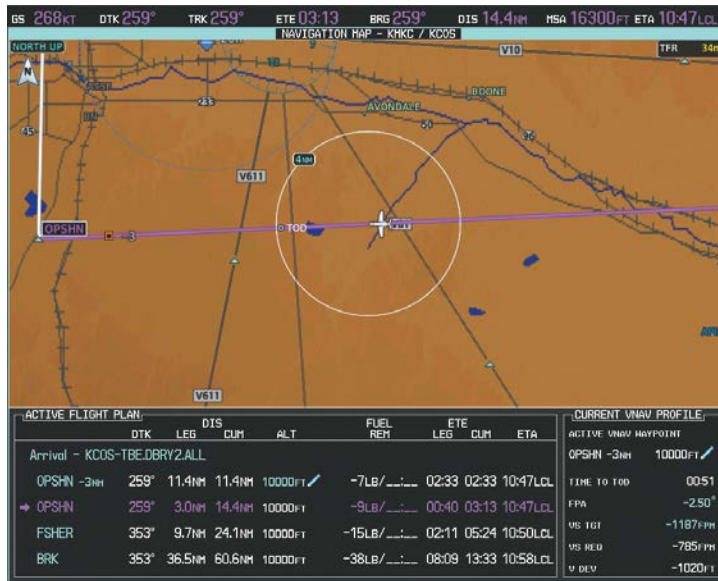
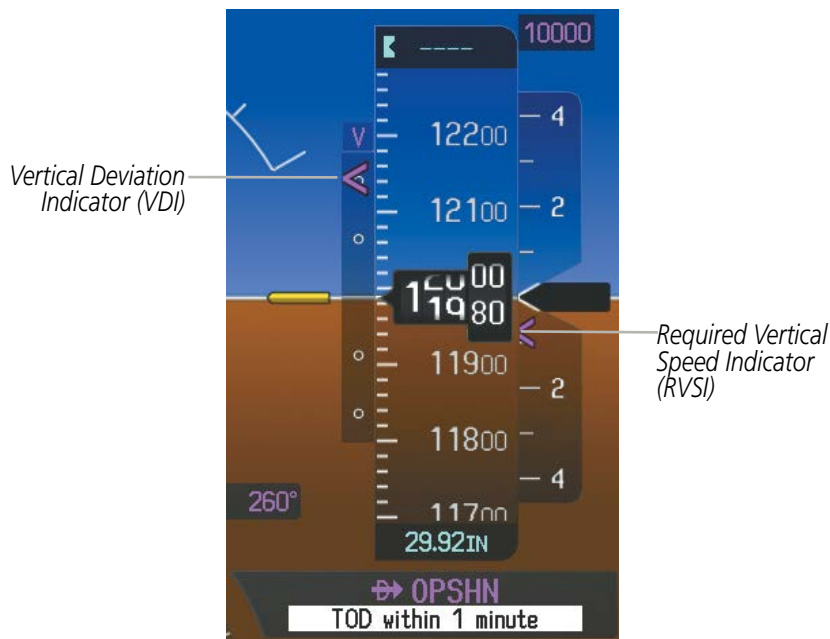

Figure 5-183 Approaching Top of Descent (TOD)
Figure 5-184 VDI & RVS Upon Reaching Top of Descent (TOD)
- 15) As seen in Figure 5-183, the aircraft is approaching TOD. Note the target vertical speed required to reach the selected altitude. The Vertical Deviation Indicator (VDI) and the Required Vertical Speed Indicator (RVS) are now displayed on the PFD as shown in Figure 5-184. When the aircraft is within one minute of the TOD, it is annunciated as shown in Figure 5-184, and an aural alert 'Vertical track' will be heard.